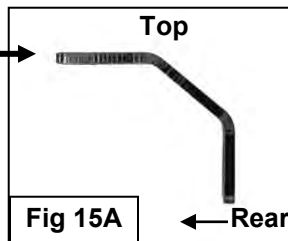

Fig 15A
14. Select (1) Center Support Bracket, **(Figure 15A)**. Attach the long end of the Support Bracket to the forward Bolt Plate in the frame channel with (1) 10mm Flat Washer, (1) 10mm Lock Washer and (1)